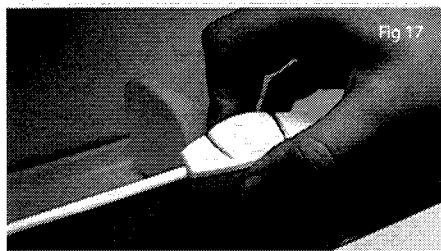

Fig 17
- Adjust the position of the sliding retainer (Fig 17) to hold bottles and containers firmly in place.